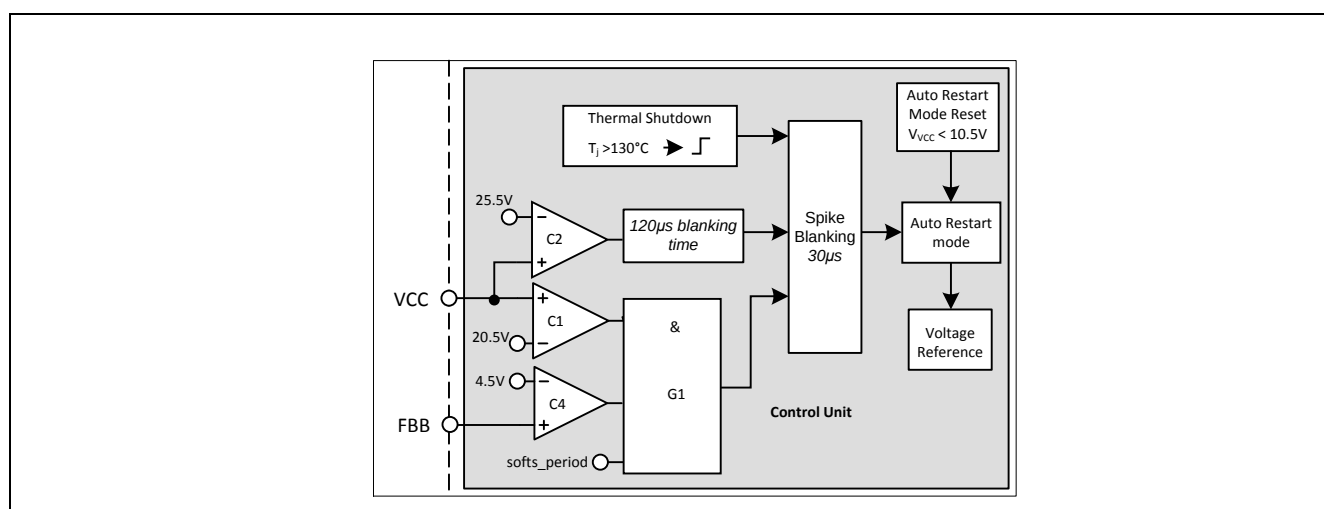

Figure 30: Vcc OVP and OTP
Vcc OVP (1) condition is when V_{VCC} voltage is > 20.5V, V_{FBB} voltage is > 4.5V and during soft start period, the IC enters into odd skip Auto Restart Mode. This condition likely happens during start up at open loop fault (Figure 30).
V_{CC} OVP (2) condition is when V_{VCC} voltage is > 25.5V, the IC enters into odd skip Auto Restart Mode (Figure 30).
The over temperature protection OTP is sensed inside the controller IC. The Thermal Shutdown block keeps on monitoring the junction temperature of the controller. After detecting a junction temperature higher than 130°C, the IC will enter into the non switch Auto Restart mode. The ICE3AR4780VJZ has also implemented with a 50°C hysteresis. That means the IC can only be recovered when the controller junction temperature is dropped 50°C lower than the over temperature trigger point (Figure 30).